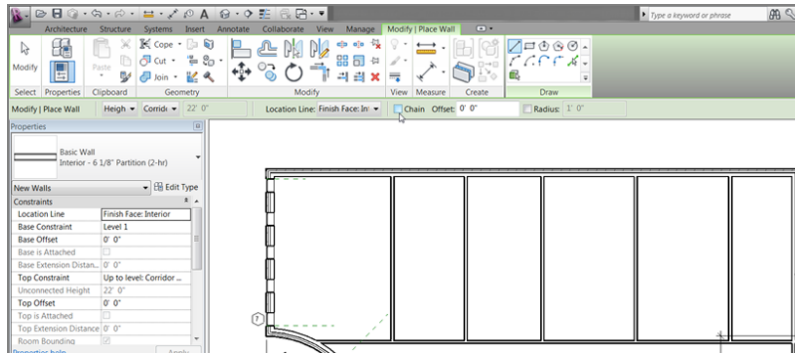

FIGURE 5.25: Place these walls as quickly as possible, and don't worry about their spacing.
4. Draw five more walls, as shown in Figure 5.25. They don't have to be an equal distance from one another.